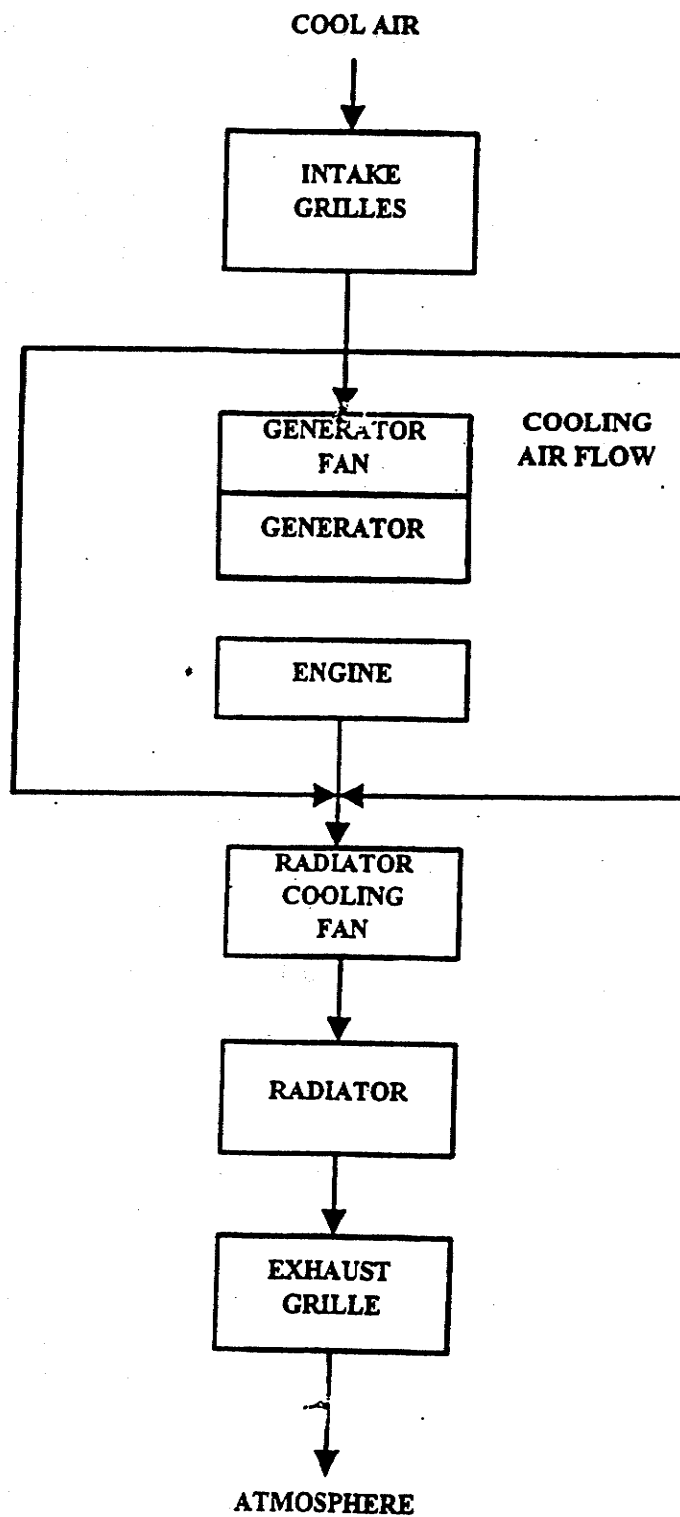

FIGURE 1-23. GENERATOR SET COOLING SYSTEM FLOW DIAGRAM
- 1.16.7.1 The Generator Set Cooling System (Figure 1-23) includes air intake and exhaust grilles, baffles, and ducting within the generator set housing and the engine driven radiator cooling fan. The air intake grilles are located in panels on both sides of the generator set housing. The air exhaust grille is located in the housing top panel.